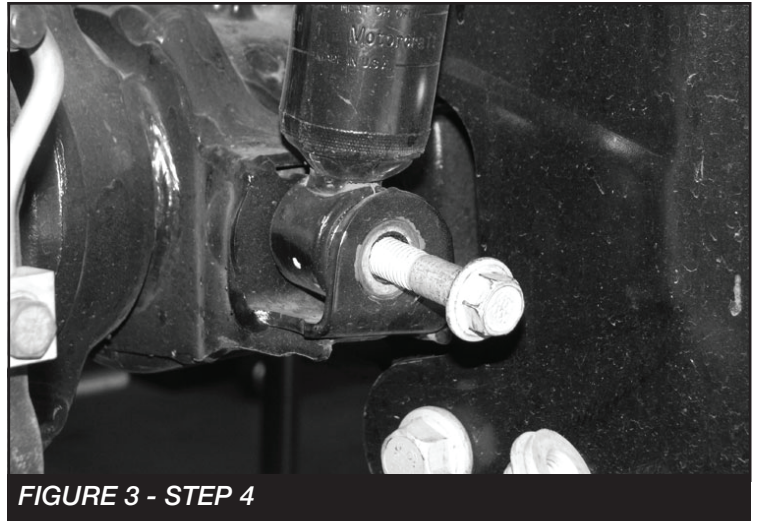

FIGURE 3 - STEP 4
4. Remove and save lower shock hardware. **SEE FIGURE 3**